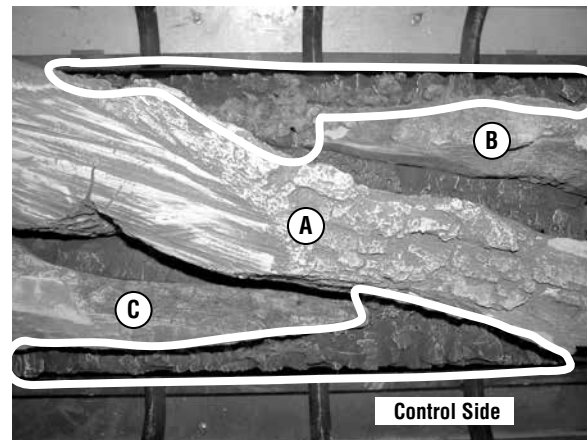

Figure 40 - Placement of Glowing Ember Pieces
- b) Distribute the dime-sized pieces over the surface of the burner, in the areas shown in **Figures 40 and 41**.